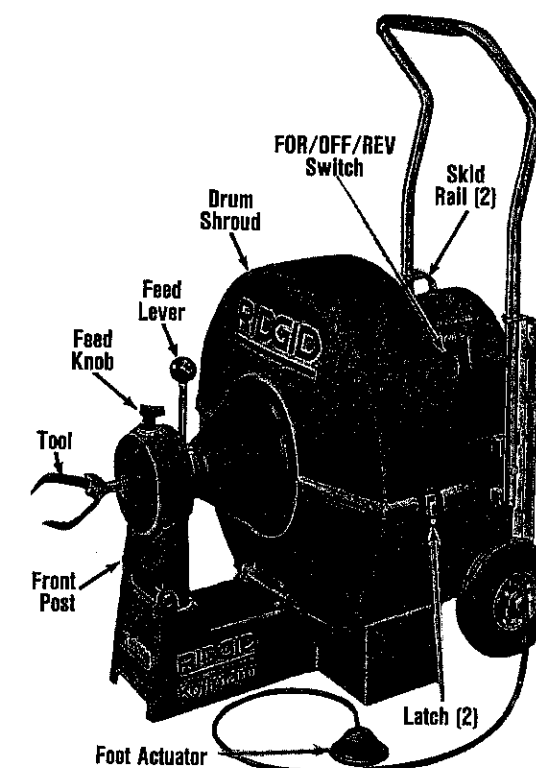

Figure 4. K-6800 Drain Cleaning Machine (Automatic Feed) K-5800 Similar.
#### Automatic Feed Operating Procedure (Refer to Figure 4)
**Removing/Installing Cable Drum (Figs. 4, 7 & 8)**